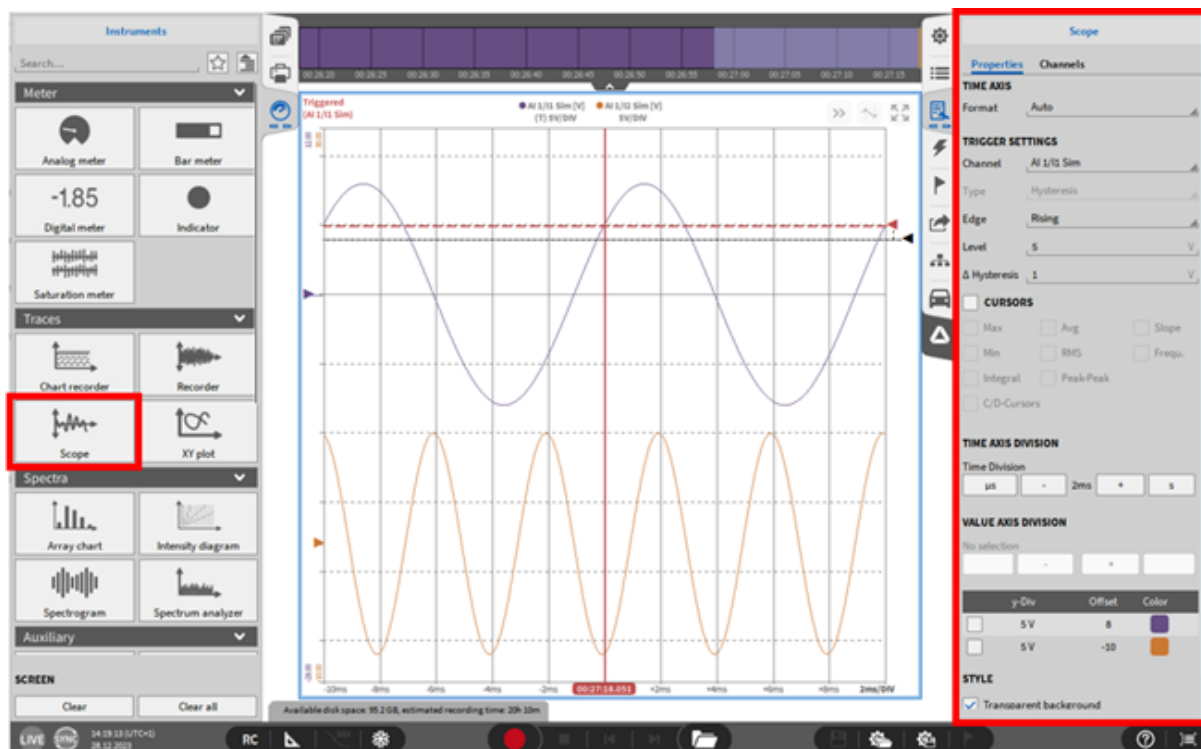
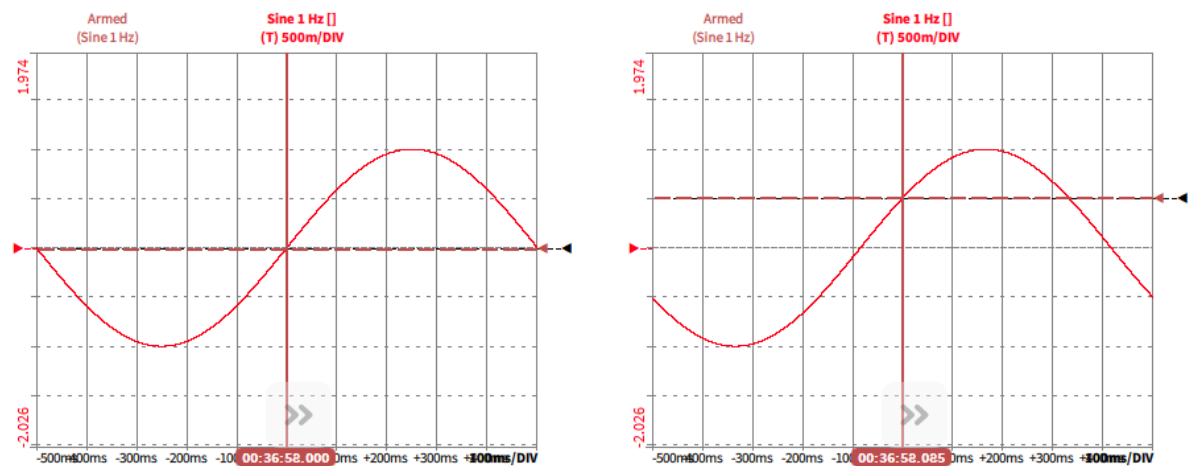

Fig. 8.35: Scope instrument – overview
Fig. 8.37: Rising trigger edge with level 0 (left) and level +0.5 (right)
- In the *Level* selection, the user can define the level of the trigger. The level can also be set with the *Level* cursor (see Fig. 8.35) and must be within the signal range. Fig. 8.37 shows a 1 Hz sine wave with an amplitude of  $\pm 1$  which is triggered with a rising edge on level 0 and level +0.5.
In the  $\Delta$  *Hysteresis* selection, the user can define a level the signal must pass before a new trigger event occurs. Setting a hysteresis level avoids unwanted trigger events that may occur caused by noise around the trigger level. The  $\Delta$  *Hysteresis* level can also be set with the *Hysteresis* cursor (see Fig. 8.35).
- The Offset Cursors (see Fig. 8.35) can be used to displace the displayed signals vertically. Using this function will not affect the phase accuracy.